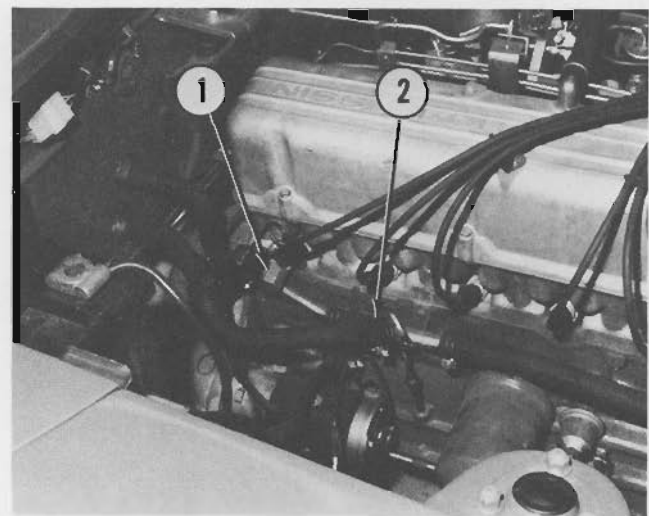

Figure III-8. Method of Draining Heater Core With Air Pressure
c. Loosen the heater hose clamps (supply and return lines), see Figure III-8, Items 1 and 2, at the RH side of the engine and remove the hoses from the fittings.